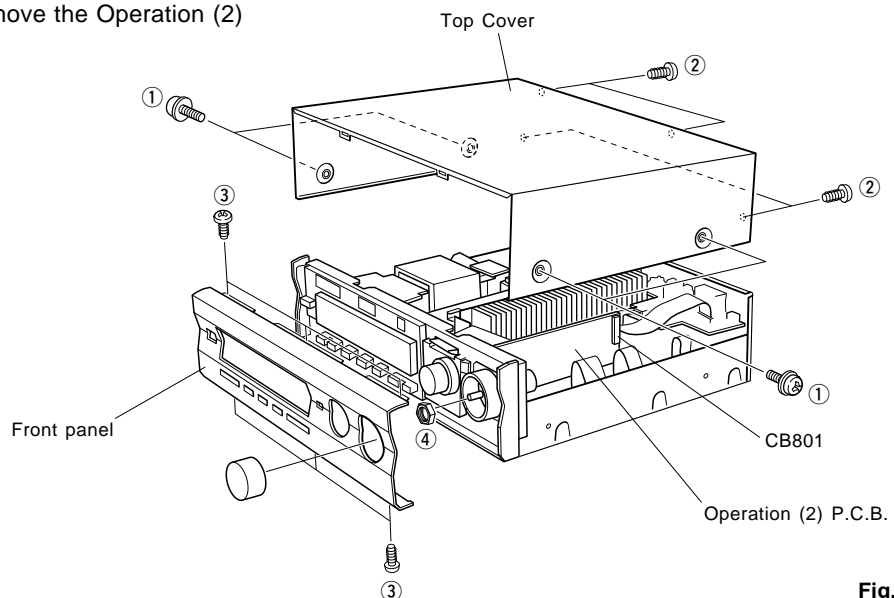

Fig. 1
- a. Remove 4 screws (①) and 4 screws (②) in Fig. 1.
- a. Remove 6 screws (③) in Fig. 1.
3. Removal of Operation (2) P.C.B.
- b. Disconnect a flat connecting cable (CB801) in Fig. 1.
- c. Remove a nut (④) and then remove the Operation (2) P.C.B. in Fig. 1.